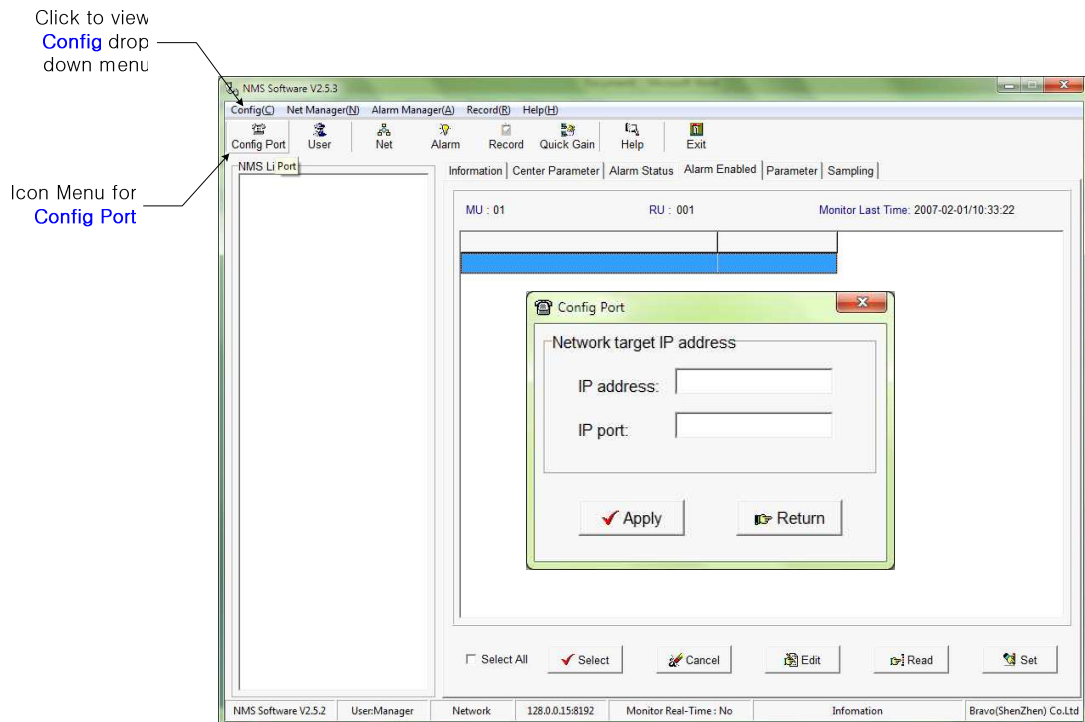

Figure 3-4. Configuration of IP Address
3. Open the Config drop down menu and select Config Port. Or click the Config Port icon menu. Configure the server IP address and port. This IP address should be same with the server IP address and port. The New window will open for setting IP address as shown in Figure 3-4.